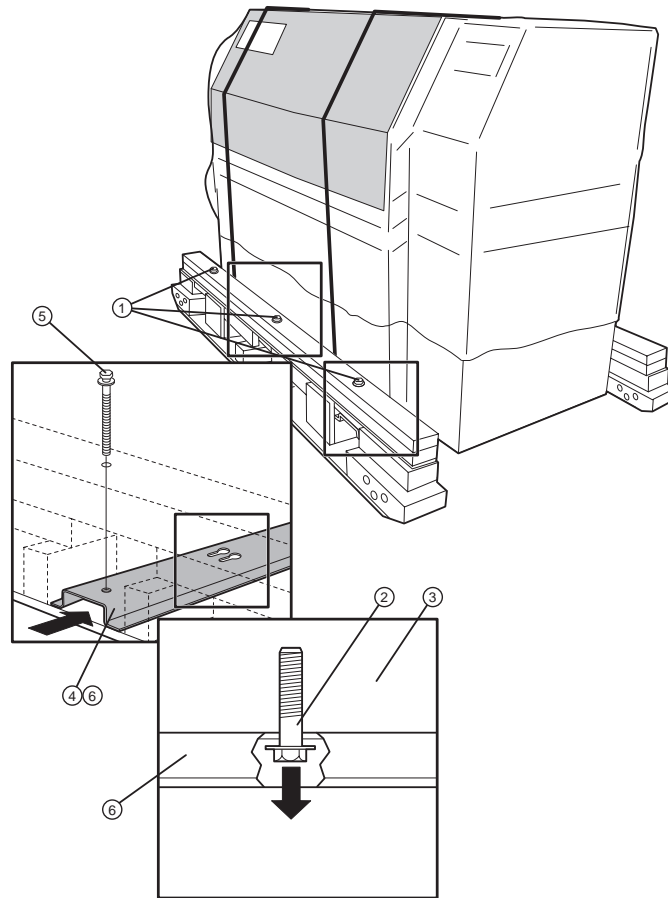

Figure 1-5 Removing the channel bolts.
- ①—One of two tie wraps. ②—End bolts (3 at each corner). ③—Diaper (removed).
④—End plate, 1 at each end (removed).
11. *Loosen* the two (2) outer channel bolts on either end. Refer to Figure 1-5. Allow only a small gap of 1/8" between the bolt heads and the beams.
- ①—Outer channel bolts (3 per skid). Loosen the two bolts at each end first, leaving the center bolt in place. ②—Inner channel bolts (4 per end channel) connecting the end channels to the imagesetter frame. ③—Imagesetter frame.
④—End channel (1 of 2). ⑤—Outer channel bolt. ⑥—End channel.
12. *Loosen* the four (4) inner channel bolts, left and right, on the bottom of the end channels. Refer to Figure 1-5.
13. Remove the two (2) center channel bolts, one on each side of the center channel. Refer to Figure 1-5. The bolts hold the center channel to the pallet beam. There are no bolts holding the center channel to the imagesetter frame. Once the center channel bolts are removed, the channel should fall.